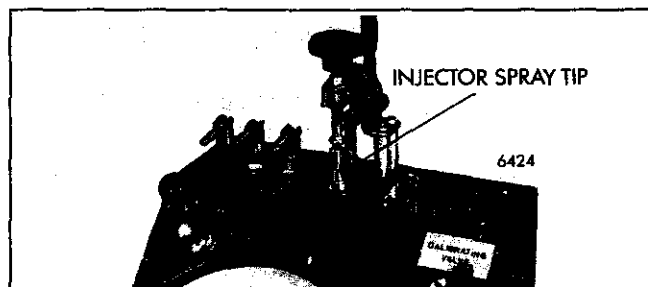

Fig. 14 – Spray Tip Installed in Tester
- Remove the needle valve, if installed, and clamp the spray tip on the unit (Fig. 14).